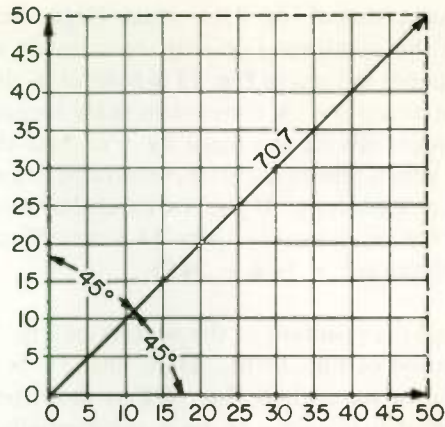

Fig. 24
2. Accurate 3. (a) 70.7 lb . . . See Fig. 24. (b) 45° (c) 45°